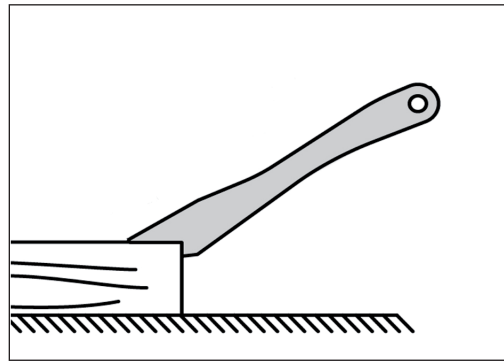

Fig 2.
3. The pusher should always be used if the piece to be cut is smaller than 120 mm. Make a new pusher when the current one is damaged. Fig 2.